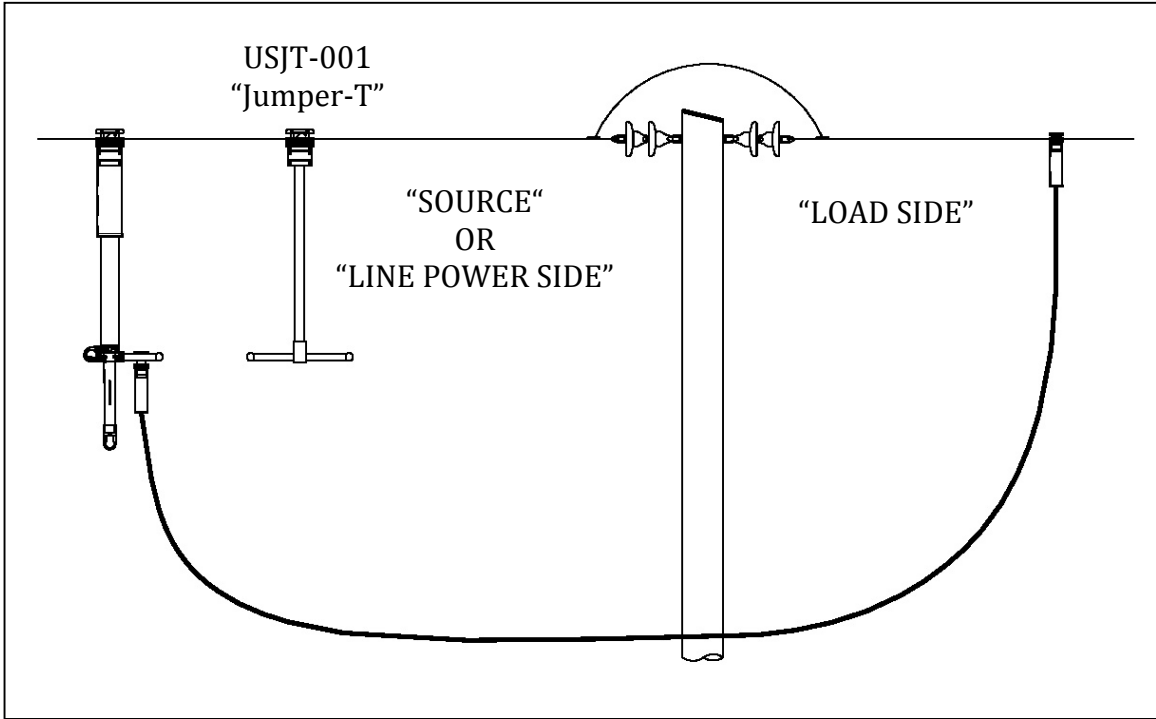

FIGURE 1: BREAK-SAFE® Installation Schematic
4. Securely attach the BREAK-SAFE® jumper head to the “SOURCE SIDE” or “LINE POWER SIDE” (FIGURE 1) using standard utility safety practices and procedures.
5. Securely attach one end of a jumper cable to the “LOAD SIDE” of the circuit (FIGURE 1) using standard utility safety practices and procedures.